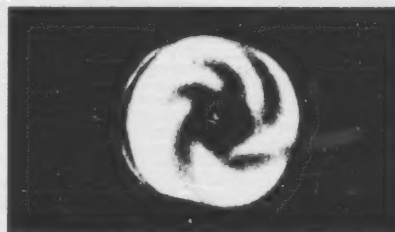

Figure 3-3. View of Turbo Swirl Looking Into Flametube
l) "Target heat" is the effective heat in a torch flame that can be applied directly to the target (Figure 3-3). By comparison, the total heat (flame temperature) of a propane-air flame is 1900°C. If all this heat could be applied to a target, it would be sufficient to melt steel, whereas an air-propane flame directed from a torch cannot melt steel. The TurboTorch system has a target heat of 950°C, about 370°C hotter than the target heats of secondary-combustion propane torches. Likewise, TurboTorch acetylene target heat is 1500°C or about 650°C hotter than the old secondary combustion acetylene torches.